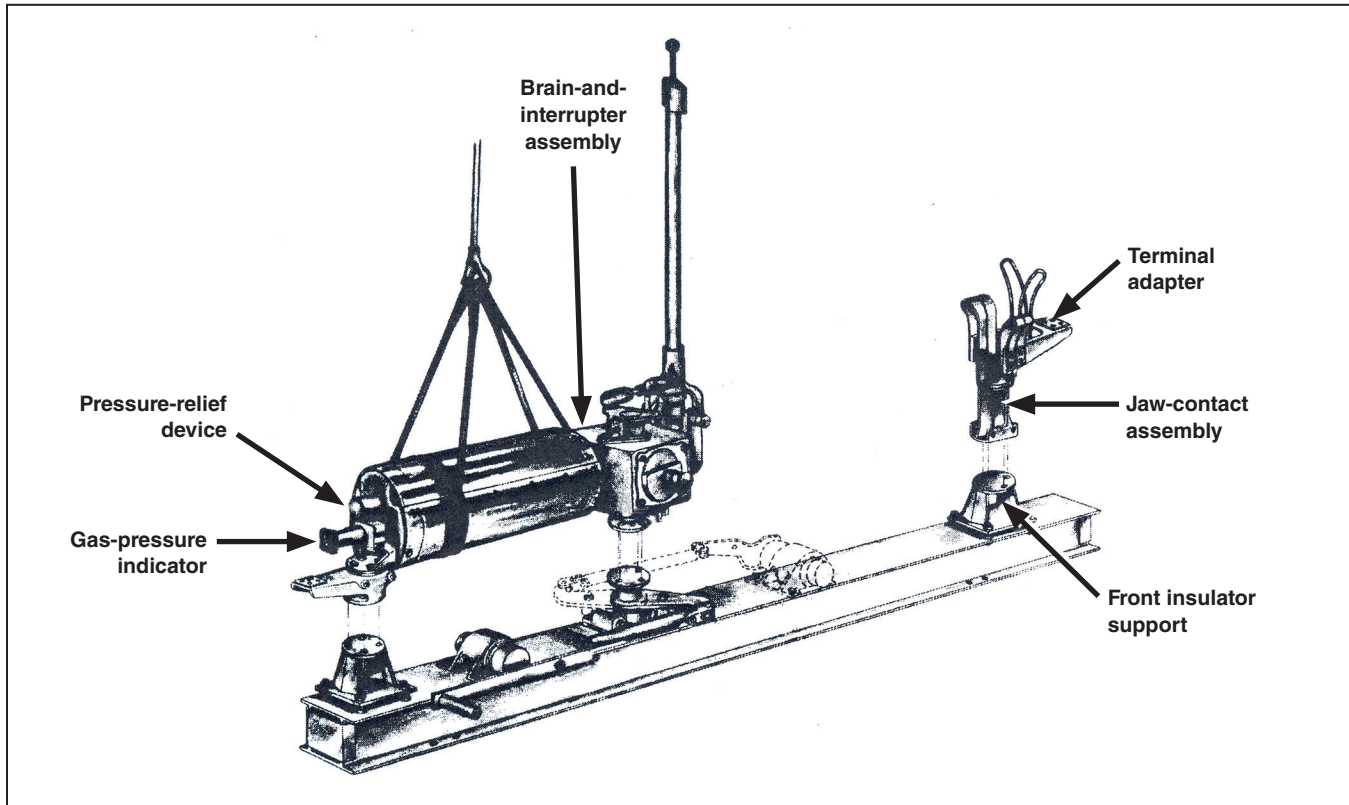

Figure 7. Removing brain-and-interrupter assembly and the jaw-contact assembly.
- (a) Attach lifting slings in the manner shown in Figure 7. Be sure the slings do not interfere with the interrupter target on the side of the brain, the gas-pressure indicator, the pressure-relief device, or the shunt-trip operating shaft (if applicable).
STEP 6. Unbolt and remove the jaw-contact assembly and terminal adapter, as a unit, from the front insulator support. See Figure 7.